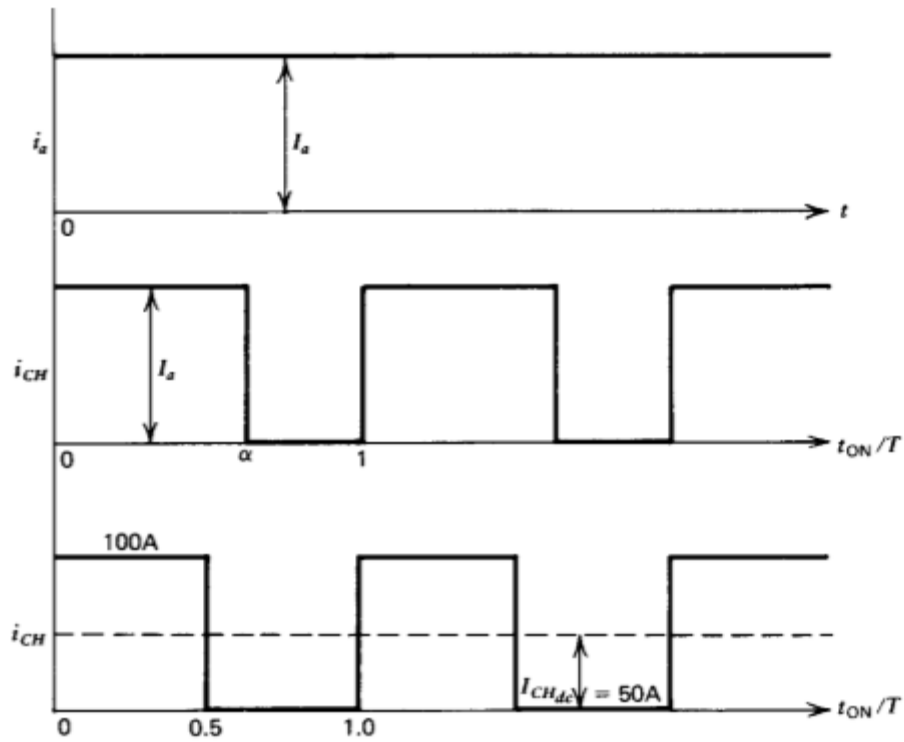

Fig. 4.21 Example 4.5
- 1 The chopper current i_{CH} is in the form of square pulses of magnitude I_a and width α as shown in Fig. 4.21. Therefore, the dc component I_{CHdc} , rms current I_{rms} , and ripple current I_{ripple} are as follows:
- 2 The L - C filter should be selected for the worst case, which corresponds to $\alpha = 0.5$. At this duty cycle (bottom wave form in Fig. 4.21) the Fourier series for the chopper current is